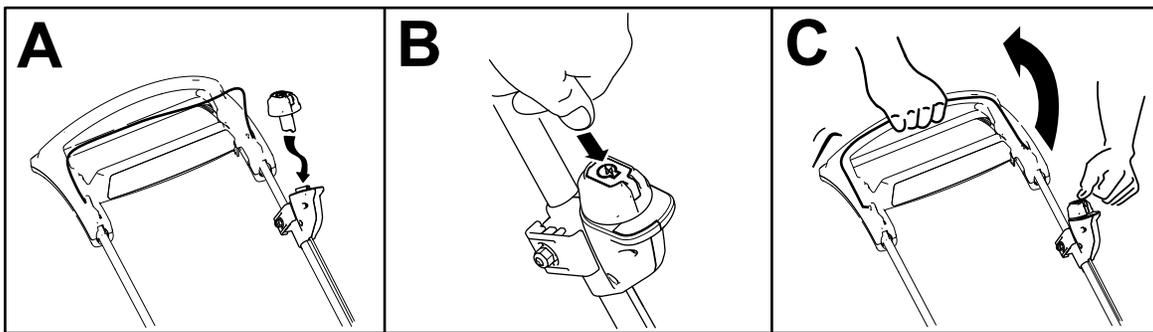

Figure 10
2. Insert the electric-start button into the electric-starter switch (A of Figure 10).
3. Press the electric-start button (B of Figure 10).
4. Squeeze the blade-control bar and hold it to the handle (C of Figure 10).